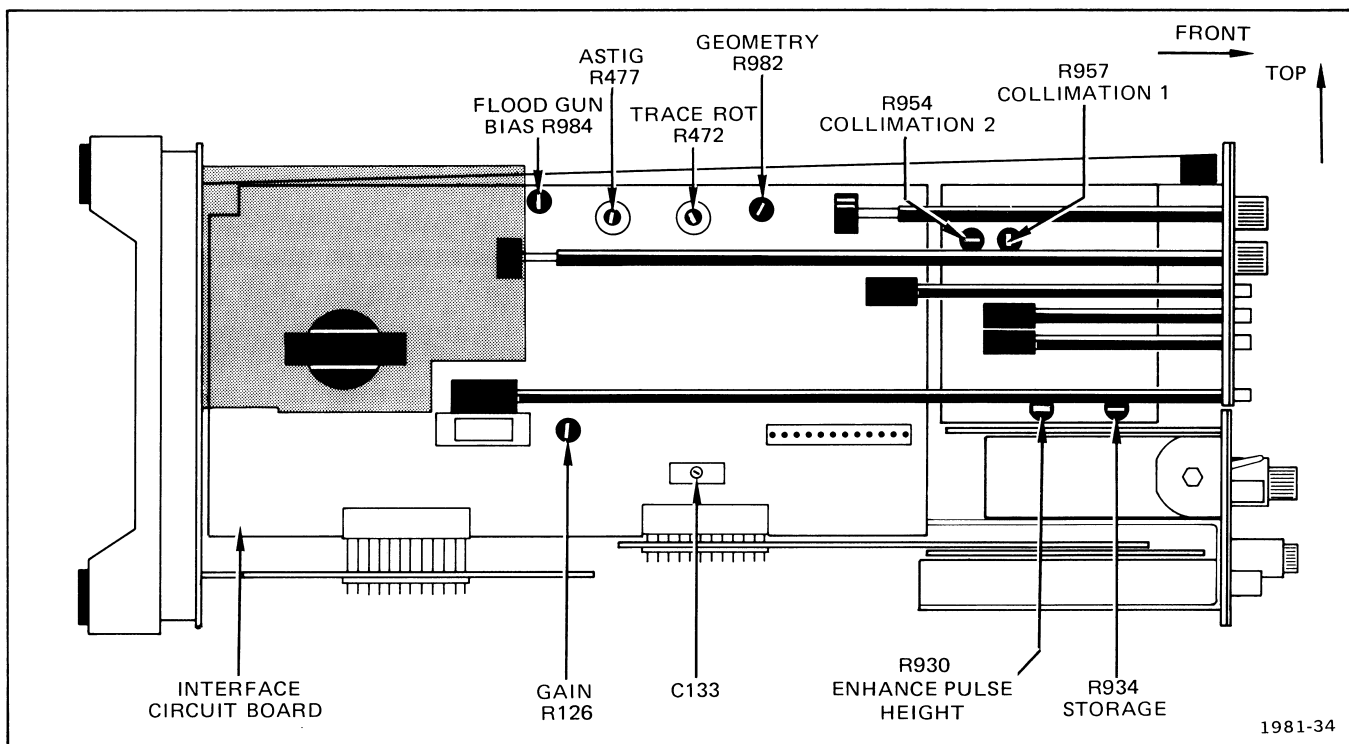

Fig. 4-2. Interface board adjustment locations.
e. ADJUST—Geom, R982 (see Fig. 4-2) for best alignment of markers with the vertical graticule lines.
e. ADJUST—R984 (see Fig. 4-2), Flood Gun Bias, counterclockwise until shadows appear in corners, then turn it 10° further clockwise.
f. Rotate R957 (see Fig. 4-2), Collimation 1, fully counterclockwise.
h. Rotate R954 (see Fig. 4-2), Collimation 2, fully counterclockwise.
p. ADJUST—R934 (see Fig. 4-2), Storage Level, as necessary, for no breaks and maximum contrast over center eight divisions, while storing and erasing single sweeps.
b. Refer to Fig. 4-2 for location of adjustments in the remainder of this step. If storage circuitry has had major repairs or if misadjustment of controls is suspected, pre-set R984, R934, R957, and R954 (also R930 for SN B011467-up) to mid-range; otherwise, leave them as previously set and proceed with part c.
b. Set Gain, R126 (see Fig. 4-2), to physical midrange.
f. Adjust Gain, R126 (see Fig. 4-2), so trace aligns with third graticule line above center horizontal graticule line.